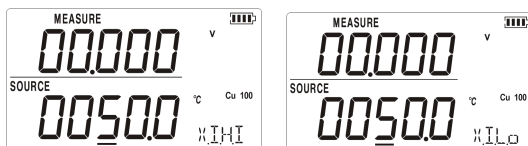

Figure 6.2-2
4. In case that the calibrator displays  $\times I H I$  or  $\times I L \square$ , the exciting current of calibrator has exceeded the limit. The screen will display as shown in Figure 6.2-2.